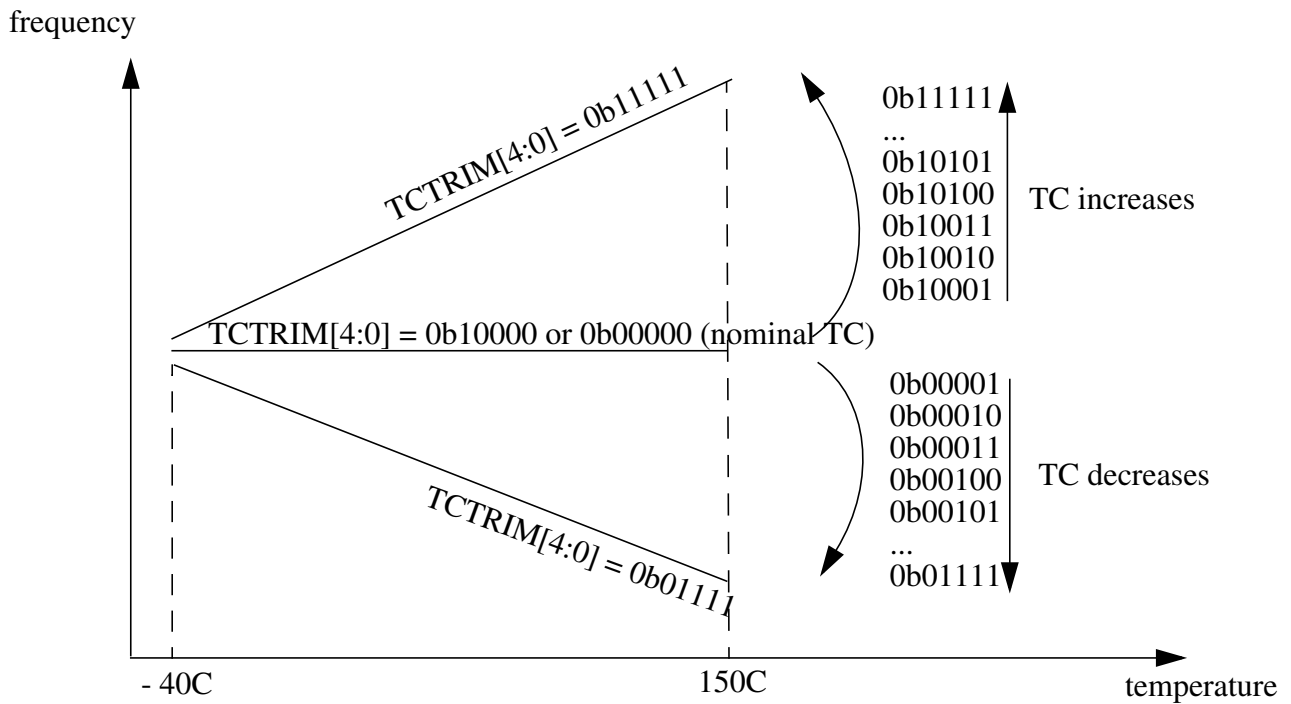

Figure 10-26. Influence of TCTRIM[4:0] on the Temperature Coefficient
15-11 TCTRIM[4:0]	<p>IRC1M temperature coefficient Trim Bits Trim bits for the Temperature Coefficient (TC) of the IRC1M frequency. Figure 10-26 shows the influence of the bits TCTRIM[4:0] on the relationship between frequency and temperature. Figure 10-26 shows an approximate TC variation, relative to the nominal TC of the IRC1M (i.e. for TCTRIM[4:0]=0b00000 or 0b10000).</p>